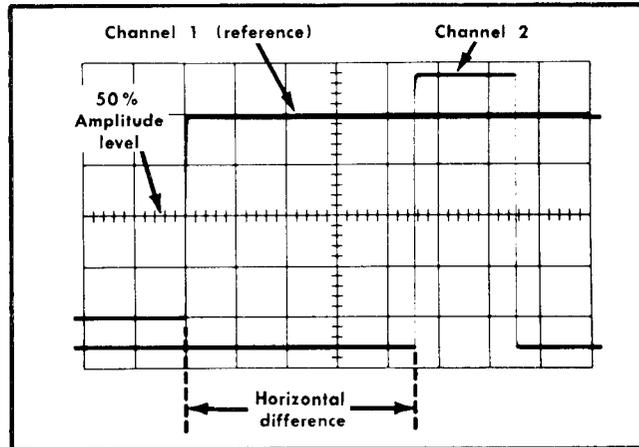

Fig. 2-19. Measuring time difference between two pulses.
11. Measure the horizontal difference between the Channel 1 waveform and the Channel 2 waveform (see Fig. 2-19).
**Example.** Assume that the TIME/DIV switch is set to 50  $\mu$ s, the MAG switch to X10 and the horizontal difference between waveforms is 4.5 divisions (see Fig. 2-19).